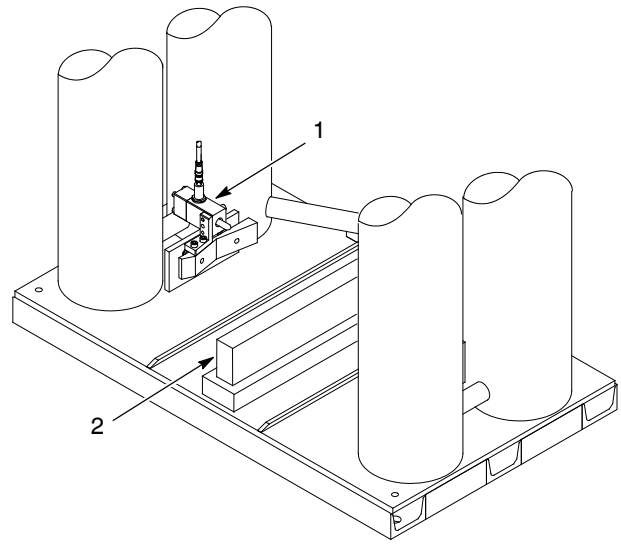

Figure 5 Drum Position Sensor
CAUTION: If the follower needs to be lowered and a material drum is not positioned on the frame, place support blocks (2) on the frame base as shown in Figure 5 to prevent damage to the drum position sensor (1).